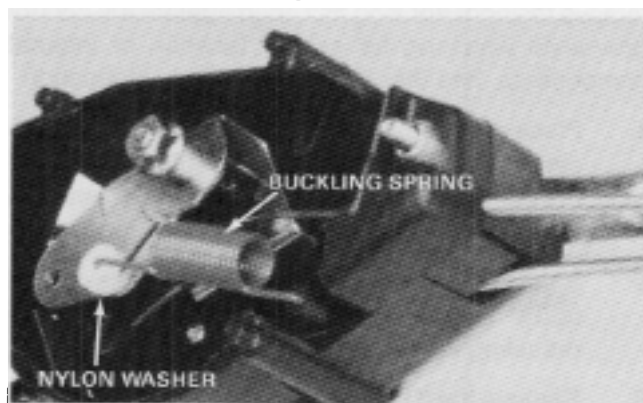

Figure 84
8. Slip the white nylon washer onto the J end of the buckling spring. The slotted side of the washer should face away from the end of the spring. Slip the spring into position in the rocker arm and the left control housing as shown in Figure 84.